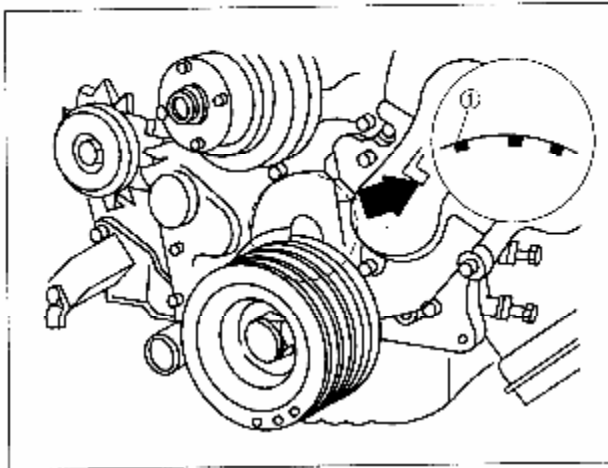
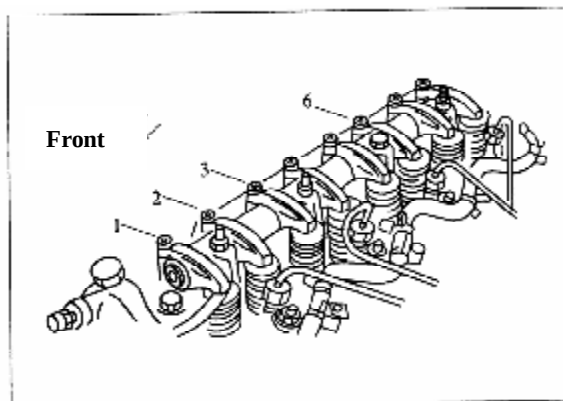

Figure 3-21 Turn crankshaft till piston reaches TDC of compression stroke
Figure 3-22 Valve clearance adjustment, valve 1,2,3,6
(1) Turn crankshaft till 1st cylinder piston reaches TDC of compression stroke (see figure 3-21), saying pulley TDC mark aligns the point on gear cover, and intake/exhaust valves in 1st cylinder are both closed. Perform adjustment on 1,2,3,6 valves (see figure 3-22).